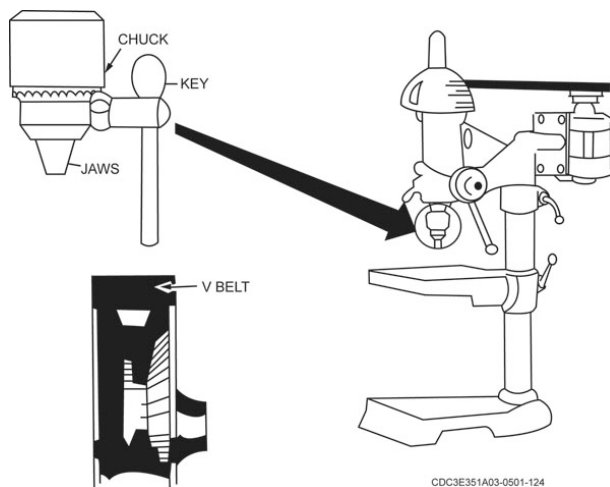

Figure 4-54. Drill press chuck.
2. Center the bit in the chuck and tighten the chuck with the chuck key—be sure to tighten all three chuck jaws (fig. 4-54) so the bit does not slip.
Most drill presses have gears or multi-step pulleys to increase or decrease the speed of the spindle. The drill press in figure 4-54 is shown with the belt guard removed. It can be adjusted for different spindle speeds by changing the V-belt to different steps on the motor and spindle pulleys. You obtain the highest speed when the belt is on the largest step of the motor pulley and the smallest step of the spindle pulley. Be sure to stop the motor before moving the belt from one step to another, and don't forget to check the belt adjustment before operating the drill press.
Preventive maintenance for a drill press consists mainly of keeping it clean, lubricated, and adjusted. Like other shop equipment, a drill press should have a maintenance record folder that specifies the items to be inspected and serviced, the intervals of inspection, and a place to record and initial the maintenance. A drill press like the one in figure 4-54 has sealed bearings and doesn't require oiling, but the spindle and the depth adjustment feed handle have oil cups for lubrication. Follow the manufacturer's instructions of your particular drill press.